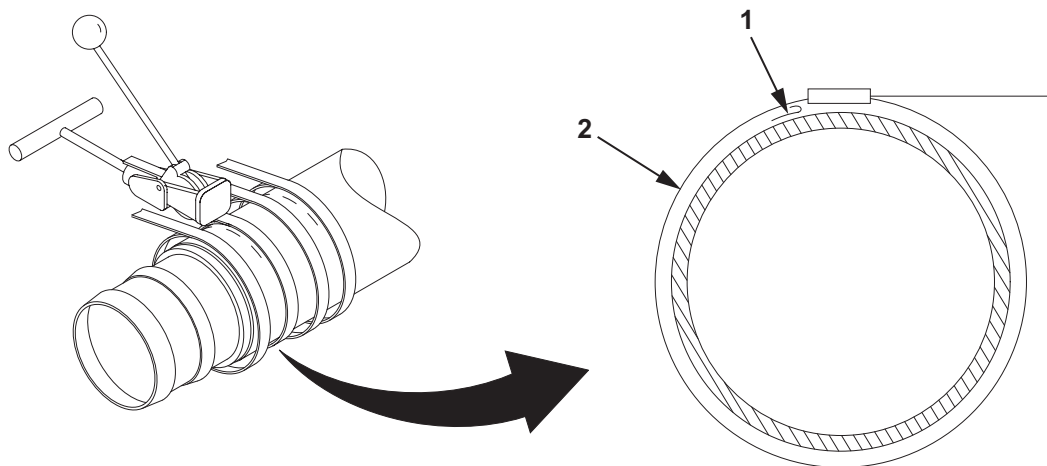

Figure 31. Hose Assembly Repair.
33. Install the bridge buckle (Figure 31, Item 1) under clamp (Figure 31, Item 2).
34. Tighten clamp (Figure 31, Item 2) until the clamp (Figure 31, Item 2) cannot be tightened by hand any further.